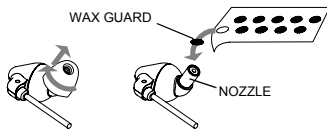

FIGURE 2: E2 Wax Guard Installation
- *E2: Routinely check the wax guard on the tips of the nozzles (see figure 2 on page 9). If the wax guards appear to be clogged, replace them.*